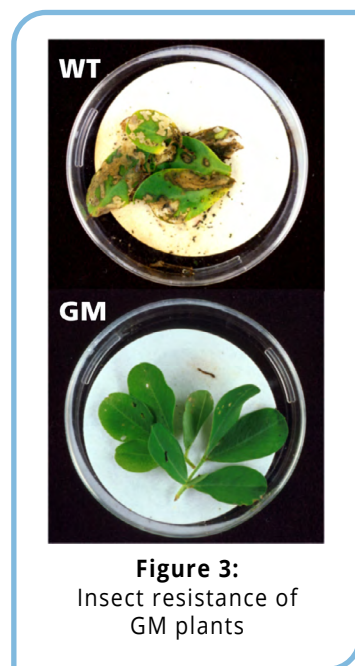

Figure 3:
Current plant biotechnology promises to increase both the yield and nutritional value of many food crops. For example, the enzyme polygalacturonase (PG) digests pectin in the tomato's cell wall, making the fruit softer and more easily damaged during shipping. The Flavr Savr tomato has been engineered to "turn off" production of the PG enzyme, slowing the softening process. Therefore, the tomatoes are less fragile. "Bt-corn" expresses a naturally occurring pesticide that protects the plant from insects (Figure 3). This technology allows farmers to use less chemical pesticides, some of which are harmful to people and the environment. Another success story is that of "golden rice". Normally, rice, a staple food for much of the world population, does not provide β -carotene or vitamin A. Because vitamin A deficiency is a widespread problem in developing countries, rice has been modified to produce β -carotene, a precursor of vitamin A. Switching to cultivation of "golden rice" and other nutrient-supplemented crops in these areas represents major progress in combating malnutrition.